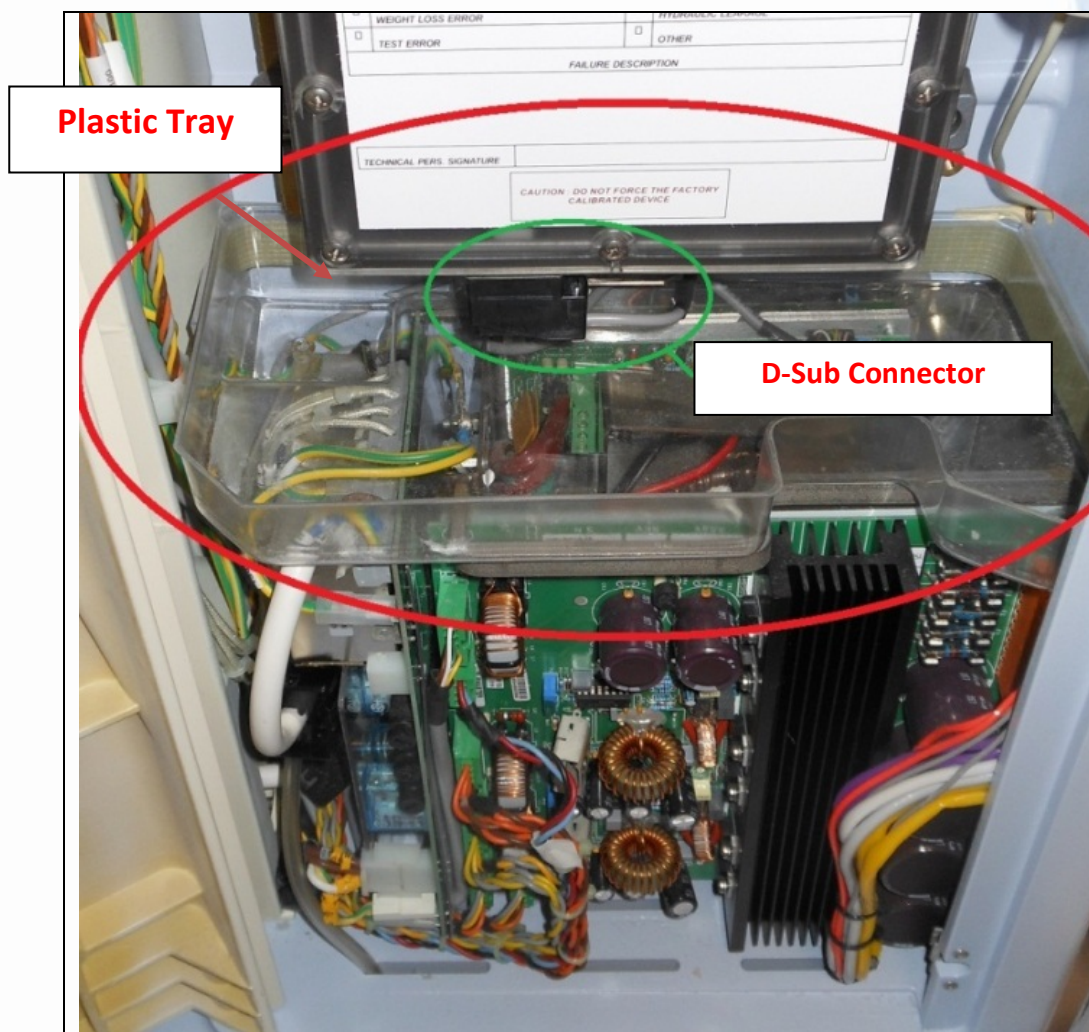

Fig. 2
3. Remove the front plastic cover, then remove the plastic tray (red oval in **Fig. 2**) covering the Power Supply Unit (PSU). Finally, disconnect the D-Sub connector (green oval in **Fig. 2**) from the bottom of the Differential Flowmeter.